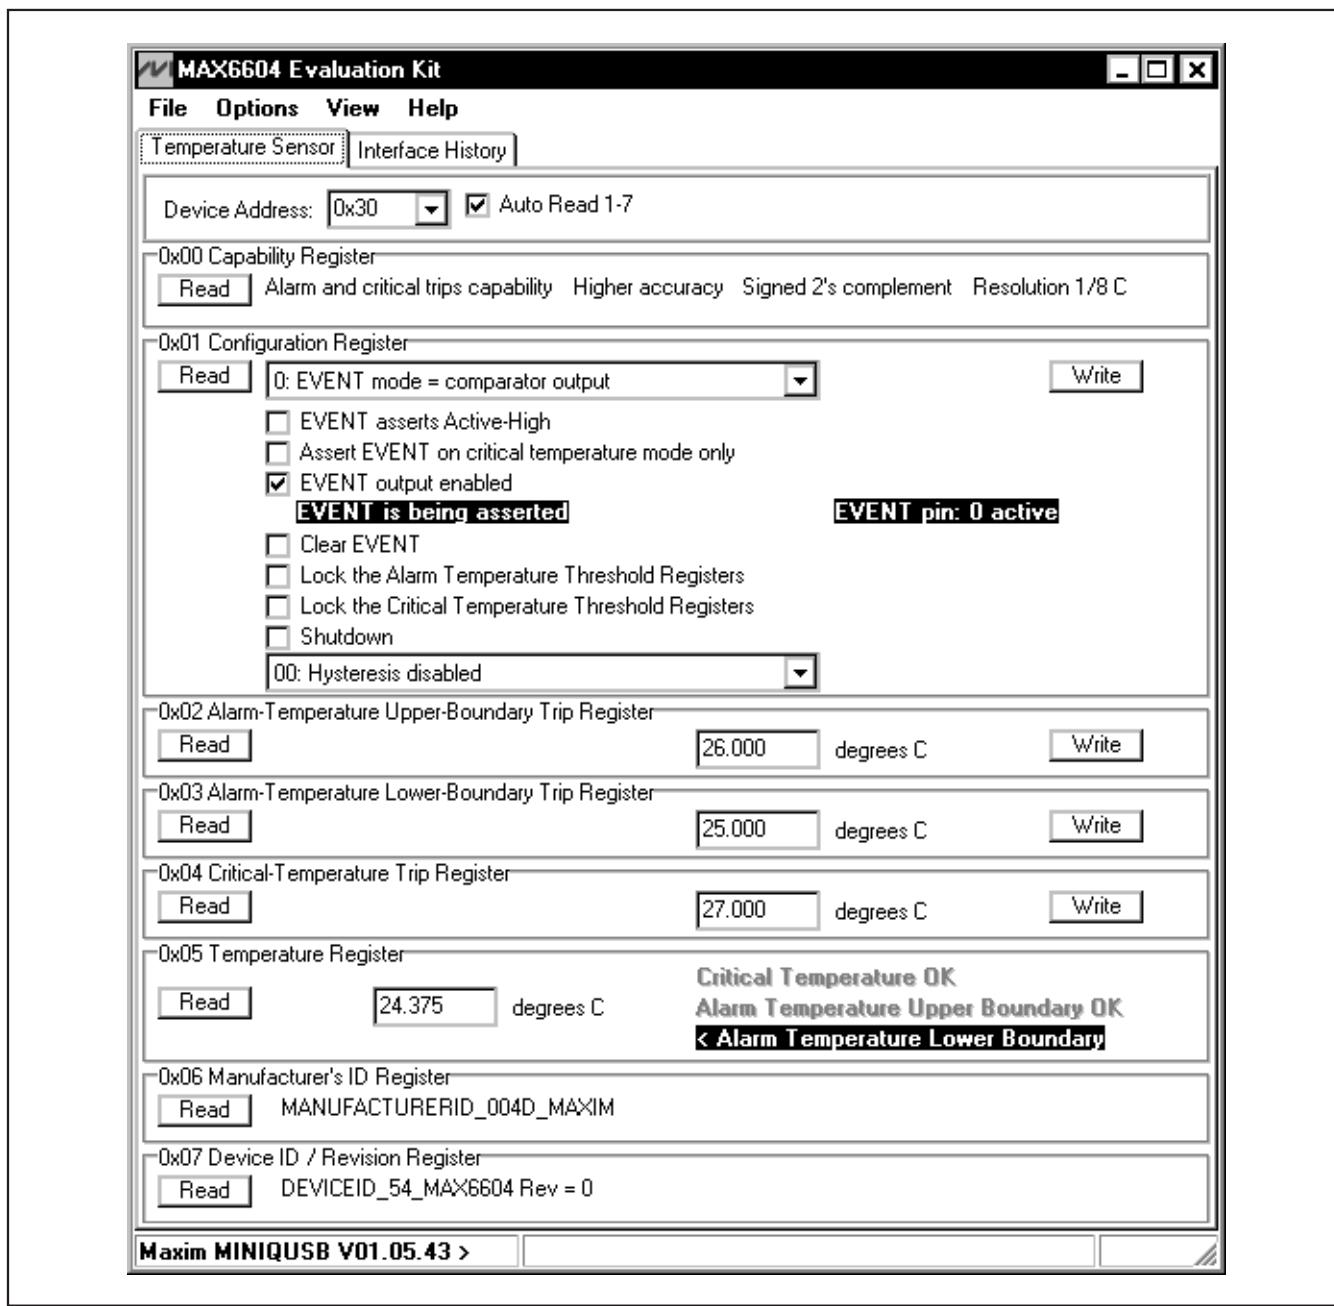

Figure 1. MAX6604 EV Kit Software Main Window (Temperature Sensor Tab)
- 6) Start the MAX6604 EV kit software by opening its icon in the **Start | Programs** menu. The EV kit software main window appears, as shown in Figure 1.
thresholds. The alarm is indicated by the INT pin being asserted and by the status indicators in the **0x05 Temperature Register** group box (alarm can also be tested by setting the threshold value below the measured temperature, as shown in Figure 1).
The main window of the evaluation software (Figure 1) displays the registers of the MAX6604 temperature sensor. Each register has a **Read** button, and each writeable register has a **Write** button. The status of the EVENT output pin is displayed inside the **0x01 Configuration Register** group box, next to the **EVENT output enabled** checkbox.
The **Temperature Sensor** tab sheet displays the temperature sensor registers of the MAX6604 (Figure 1). Each register has its own **Read** button, and each writeable register has a **Write** button. The **Auto Read 1-7** checkbox enables periodic polling of all register values. The software determines the **Device Address** when first starting up, by searching all eight possible I²C device addresses. This value must be manually changed if the JU1, JU2, and JU3 address-select jumpers are changed while the program is running.